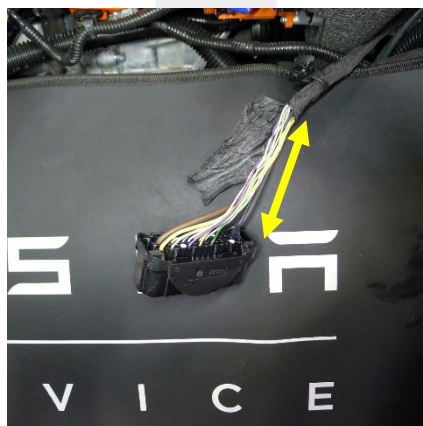

Figure 15
15. Unwrap and remove the electrical tape from the electrical harness for a distance of 150 mm from connector X151 (Figure 15).